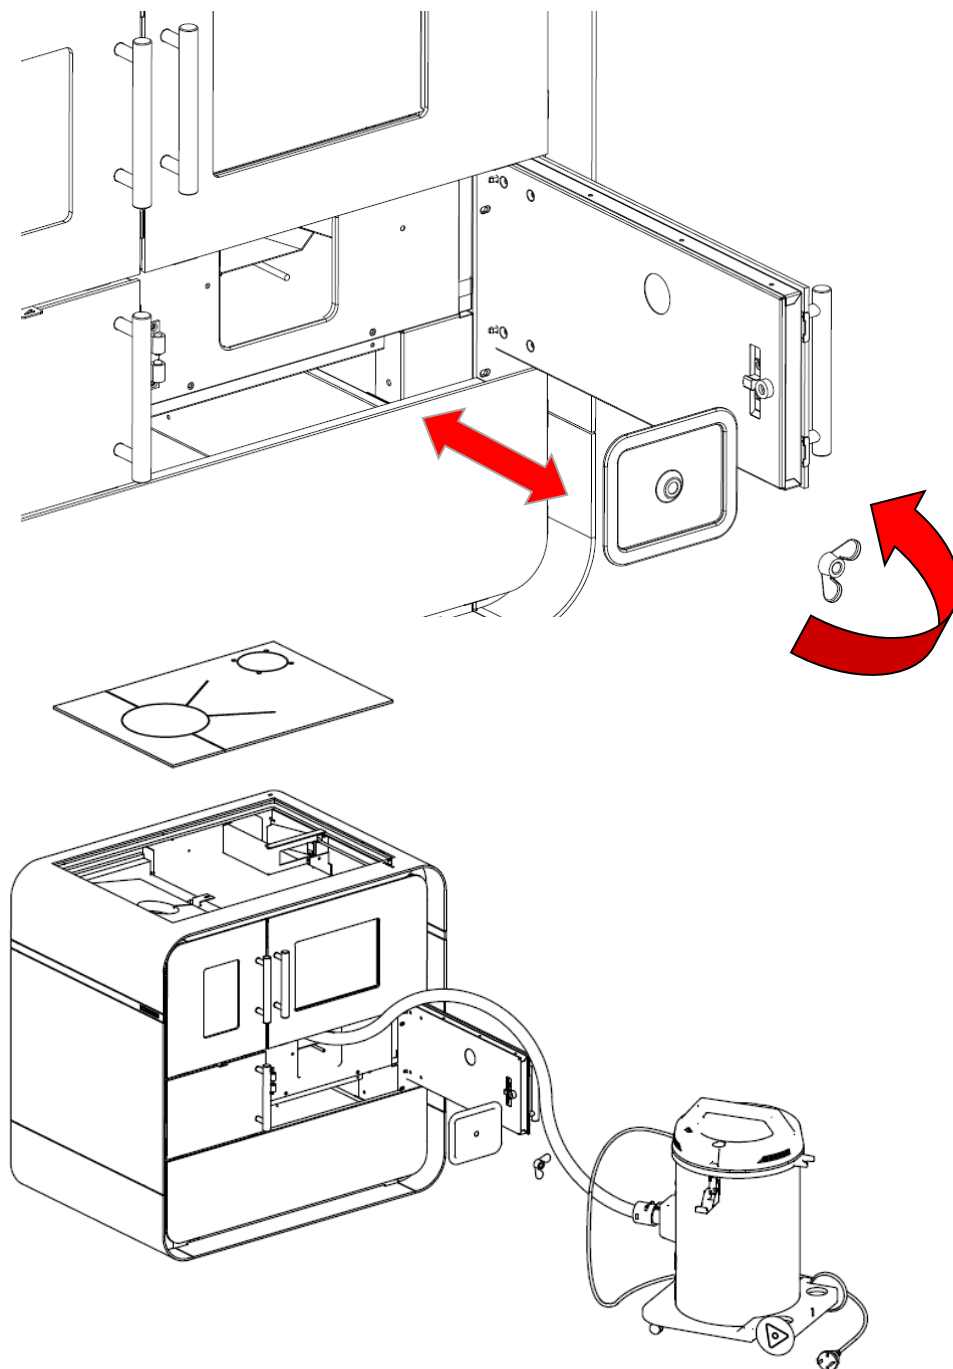

Figure 12
- o Cleaning soot and deposits from the underside of the oven (the area where flue gases pass through) should preferably be done once or twice during the heating season (Figure 12).